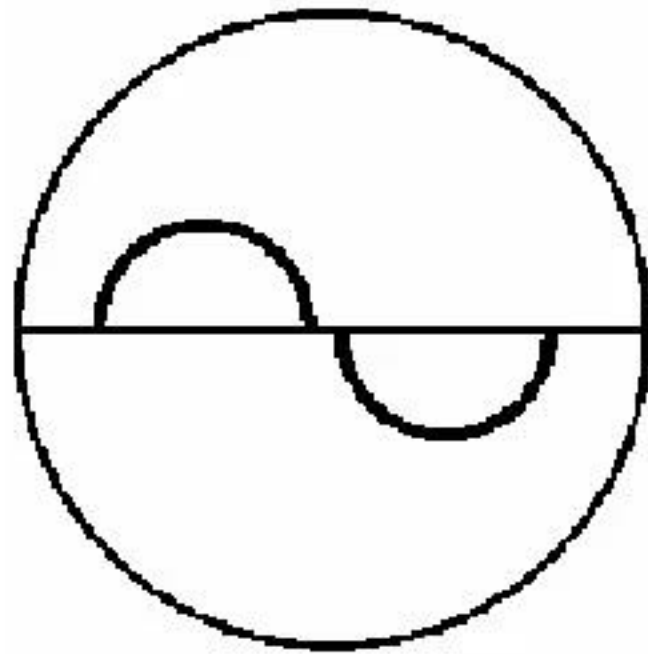
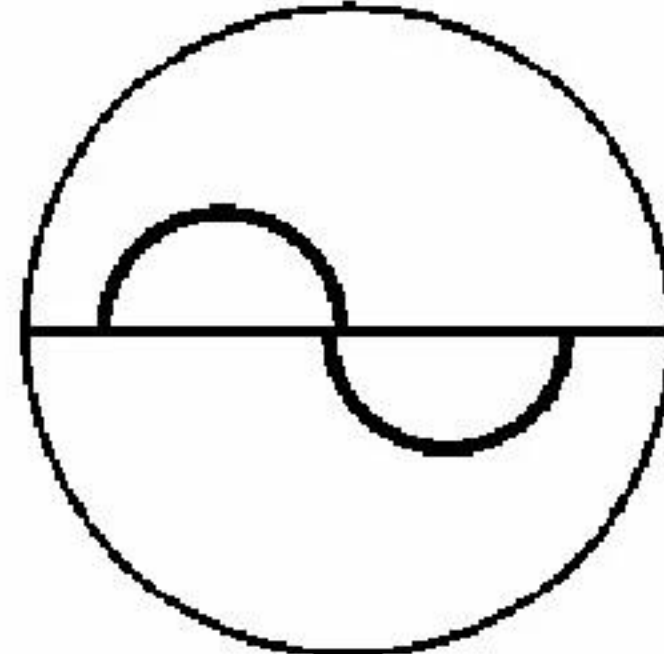

Fig. 2
Fig. 3
2. Watch through leftside eyepiece of microscope with left eye, two small semi-circles which do not connect can be seen (Fig. 2). Turn reading turn drum and increase pressure on the cornea (originally at the scale of '1') till two semi-circles connect to each other (refer to Fig. 3) (width of